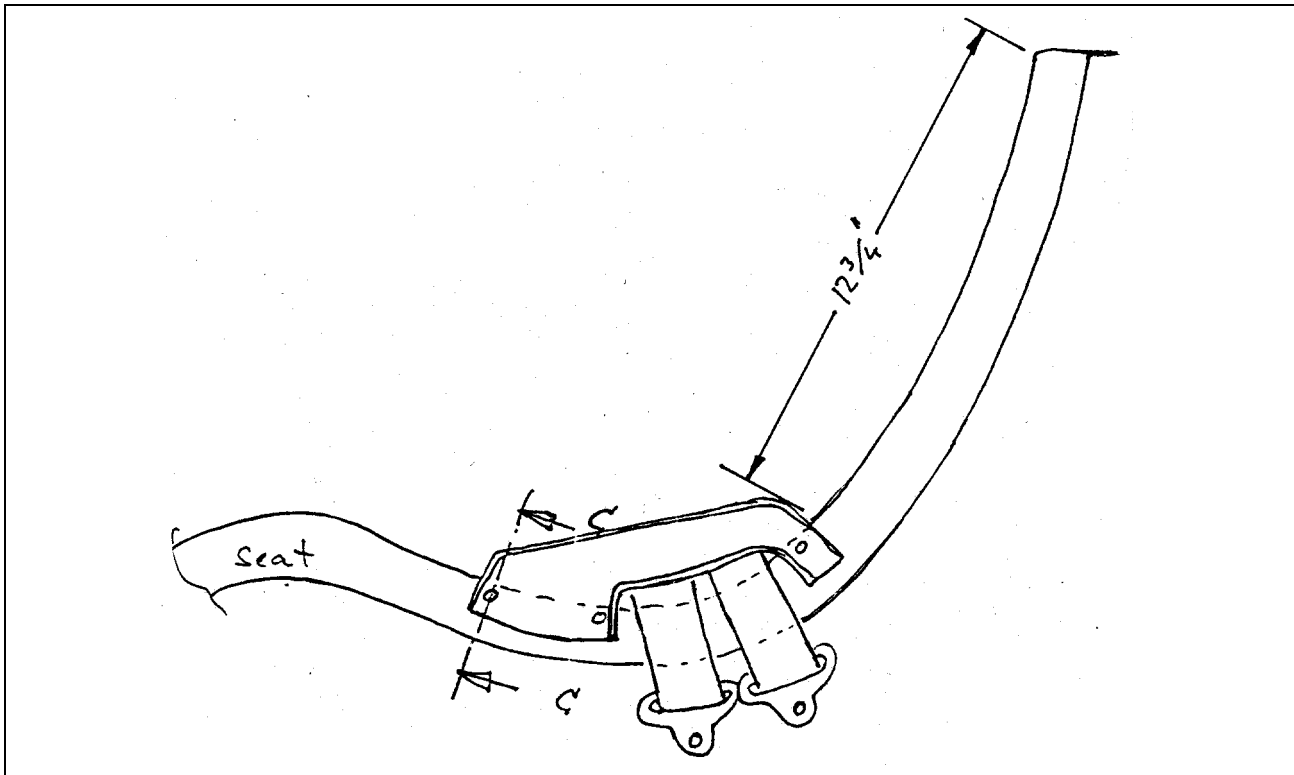

Figure 2
- Drill holes into the flange of the seat pan using the guides as templates (see figure 2)
- Install lap belt guides (see figures 2 and 3).